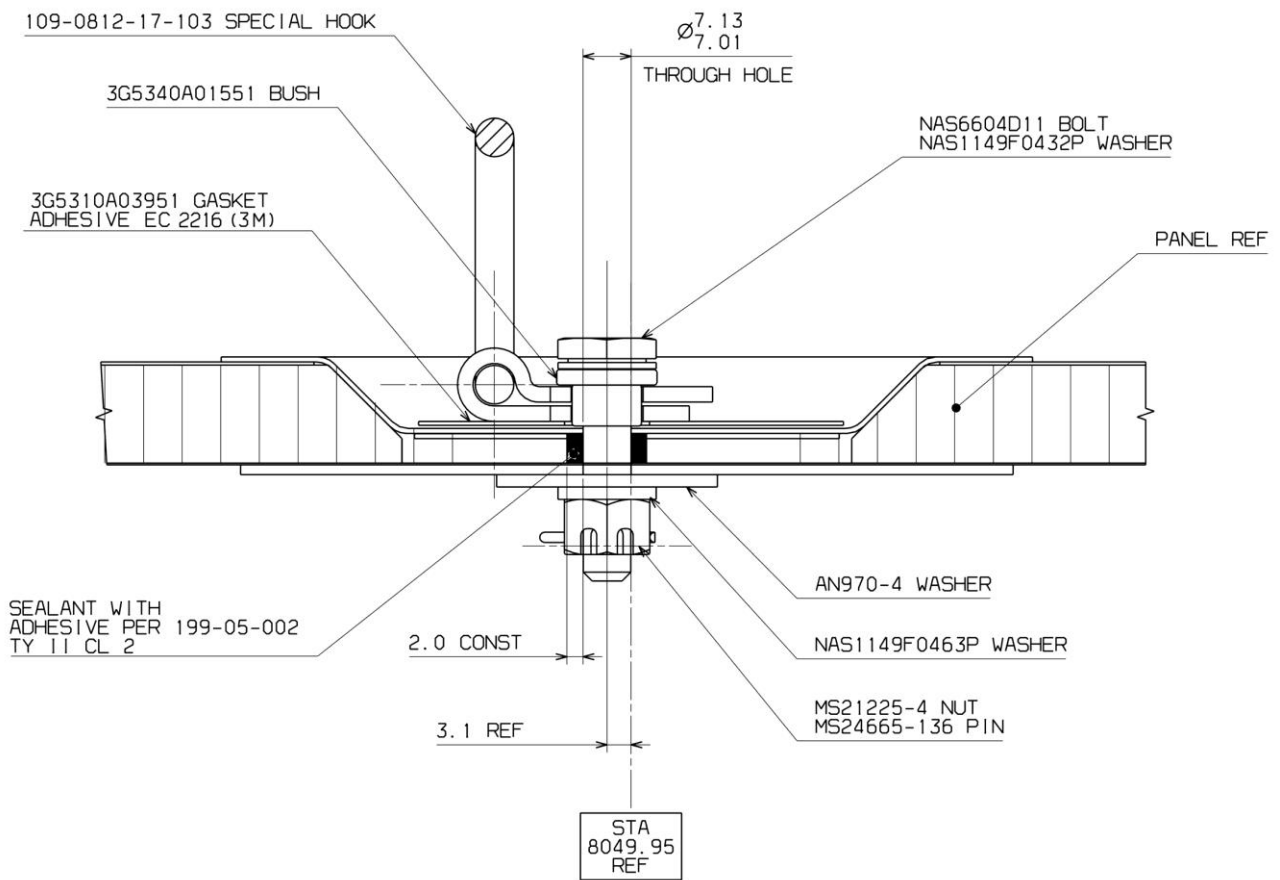

Figure 14 – Panel assy additional anchor points installation – Detailed view
15. Referring to Figure 12 thru Figure 14, in the position shown in Detail D:
16. Referring to Figure 12 and Figure 14, install the gasket P/N 3G5310A03951 (qty. 12), using EC 2216.